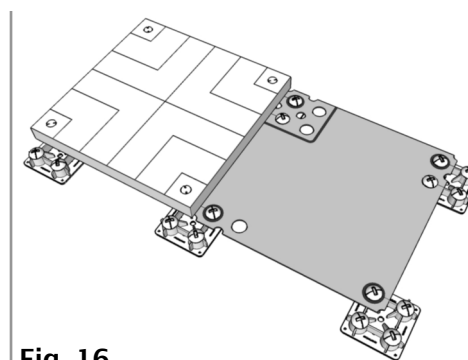
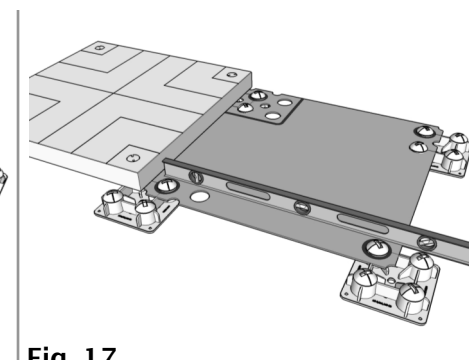

Fig. 16
Fig. 17
8. Place the next 2 Piers (A) in line with any 2 of the previously installed Piers (A) using the Pier Template (F). (Fig. 16) Level each new Pier (A) and install Anchor Spikes (D). (Fig. 17)